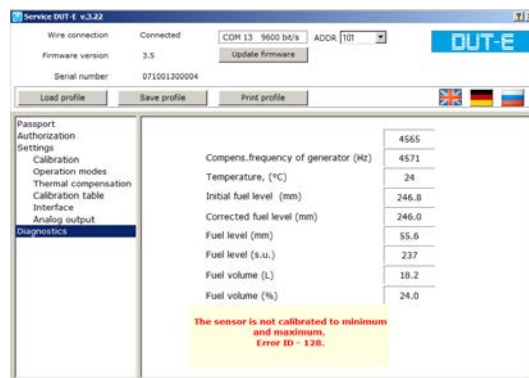

Figure 58 — Displaying current values and malfunction info
**Diagnostics** module is used to view the current values and information on possible malfunction of the sensor (see Figure 58).